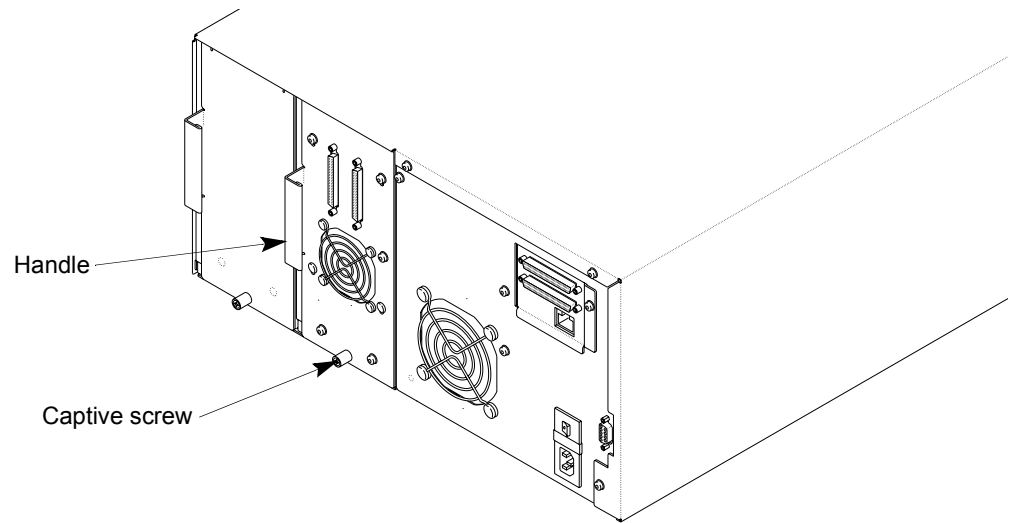

Figure 4 *Loosening the captive screw securing the tape drive to the library (221L shown)*
2. From the back panel, use a #2 Phillips screwdriver to release the captive screw that secures the tape drive carrier to the library or autoloader (see Figure 4).